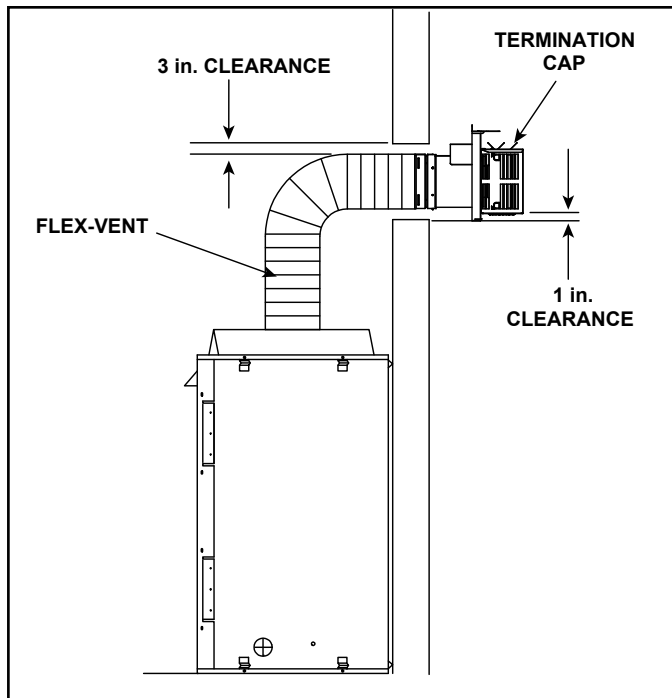

Figure 4.8 Flex Vent Pipe - Generic Fireplace Shown
A support is required at each change in venting direction, and in any location where it is necessary to maintain the necessary clearance to combustibles. A simple “up and out” installation (Figure 4.8) requires only enough support to maintain the necessary clearance to combustibles. However, the vent attachment point and the firestop location are considered to be supports.
****Note:** When using **SLP-FLEX (6-5/8 in.)** venting, there MUST be a 25% reduction in total H when using flex vent. See Figure 4.8.
****Note:** When using **SLP-FLEX (6-5/8 in.)** venting, there **MUST** be a 25% reduction in total H when using flex vent. See Figure 4.8.